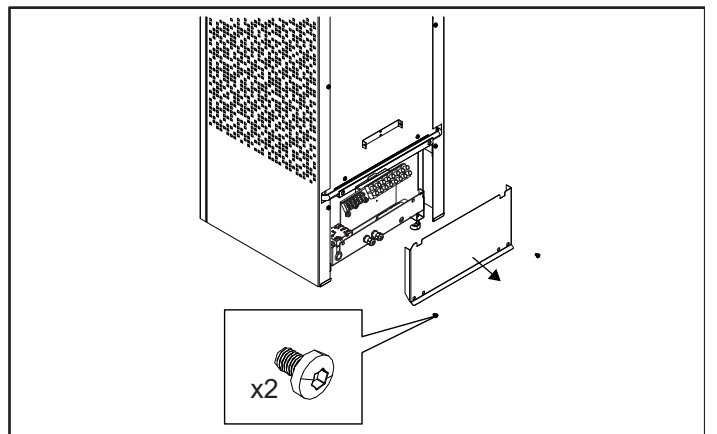

Fig 8: Open the front hatch
2. Undo the screws and open the front hatch, figure 8.
6. Put back the front hatch, (see figure 8)